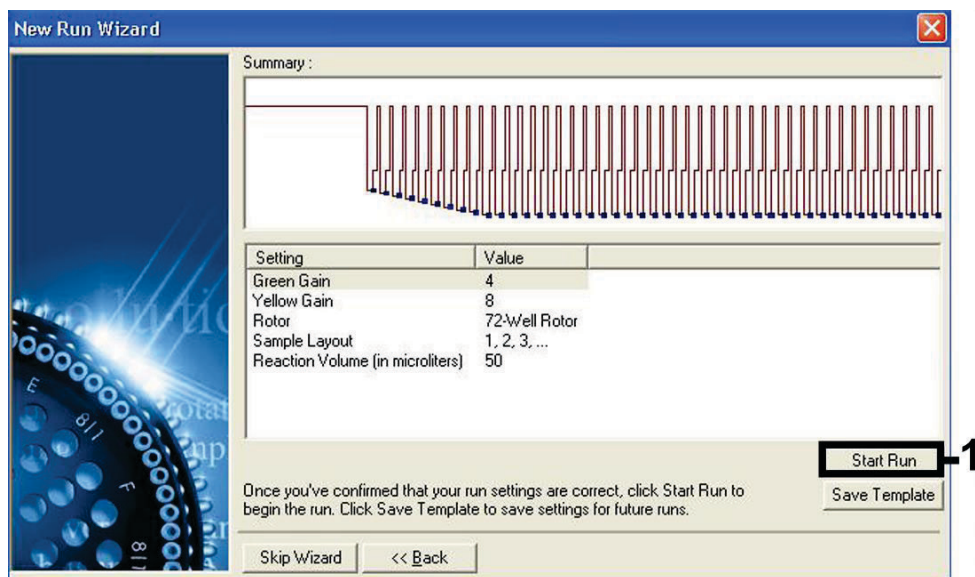

Figure 7. Starting the run.
Starting the run	Figure 7
- The gain values determined by the channel calibration are saved automatically and are listed in the last menu window of the programming procedure (Figure 7, next page). Click **Start Run**.